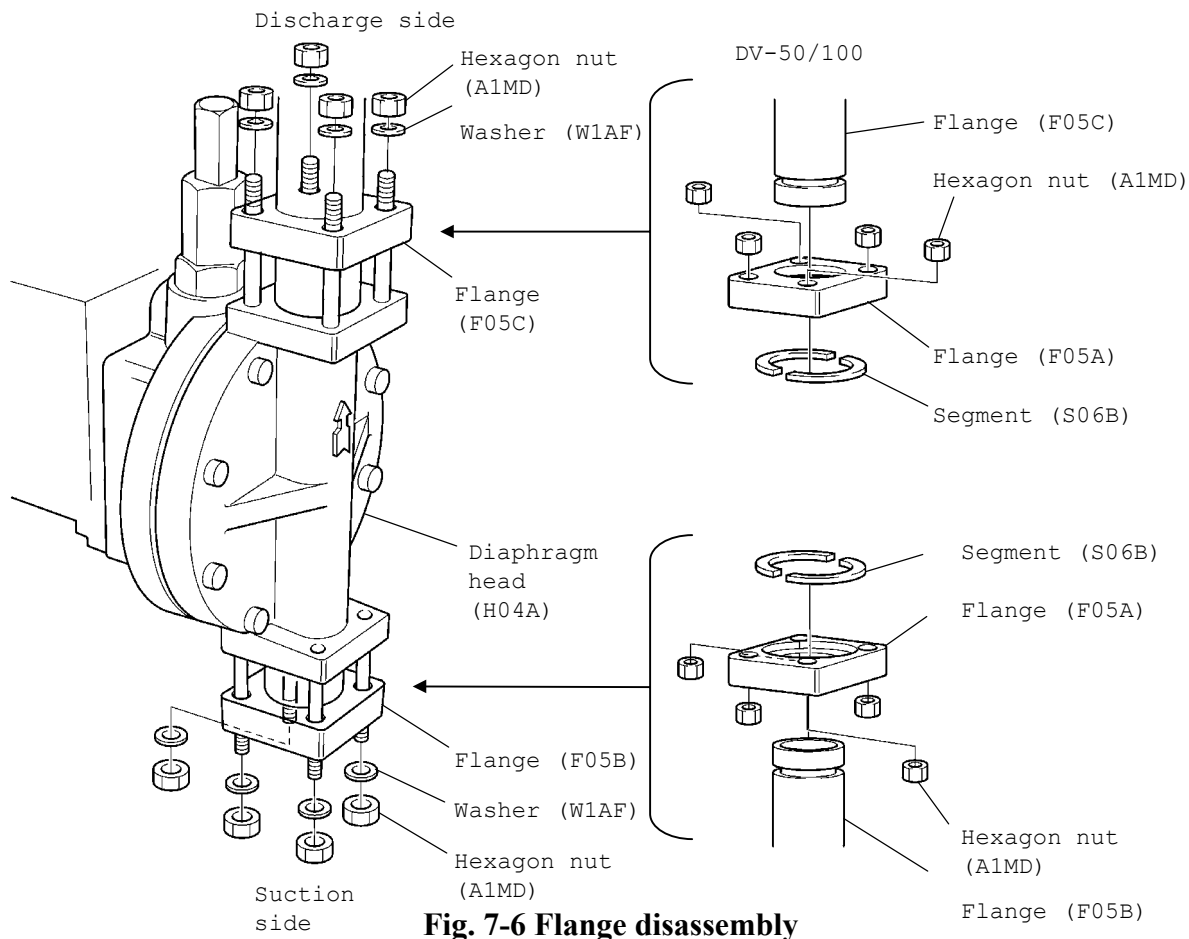

Fig. 7-6 Flange disassembly
- (2) When securing the hexagon nuts, tighten them uniformly and sufficiently. If they are secured unevenly, gasket may fail to function normally and there is a possibility that the handled liquid will leak. Refer to Fig. 7-6.
- (3) When the head size of DV-50/100 is applied, before tightening the hexagon nuts, align the bolt hole positions on the suction and discharge flanges to the bolt positions on the mating flanges.